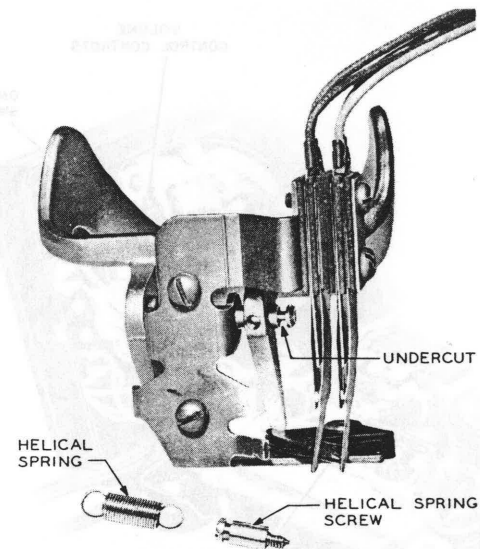

Fig. 2 - Switchhook Assembly
- When reassembling, care should be taken to be sure the undercut in the pin is assembled so that the screw for the helical spring engages with the undercut (see Fig. 2).